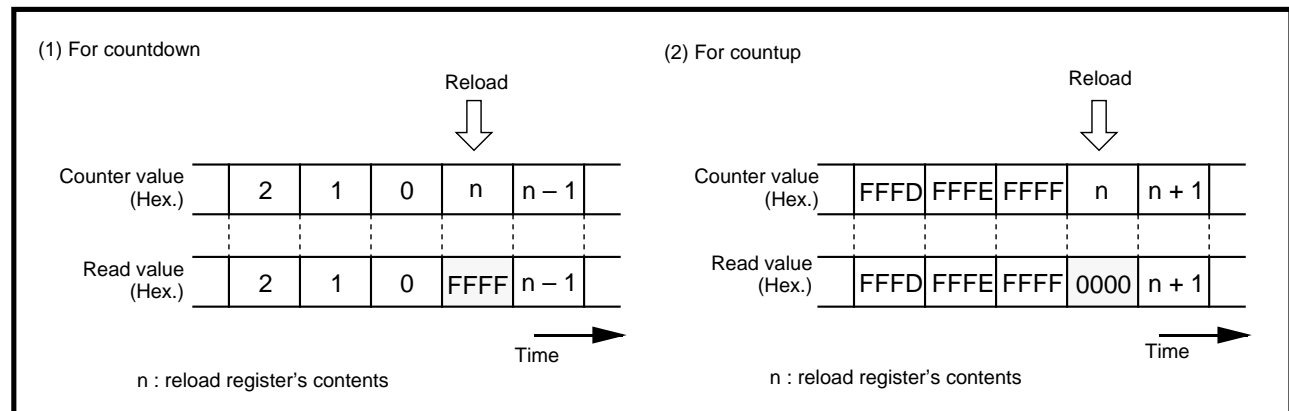

Fig. 7.4.9 Reading timer Ai register
1. While counting is in progress, by reading the timer Ai (i = 0 to 9) register, the counter value can be read out at any timing. However, if the timer Ai register is read at the reload timing shown in Figure 7.4.9, the value "FFFF16" (at an underflow) or "000016" (at the overflow) is read out. If reading is performed in the period from when a value is set into the timer Ai register with the counter stopped until the counter starts counting, the set value is correctly read out.